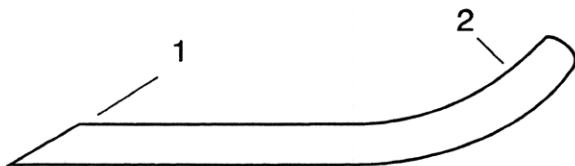

Figure 7—End View of Blade
2. Inspect the cutting edges of all blades. Sharpen the cutting edges if they are dull or nicked. Sharpen only the top of the cutting edge and maintain the original cutting angle to make sure of sharpness (Fig. 7). The blade will remain balanced if the same amount of metal is removed from both cutting edges.